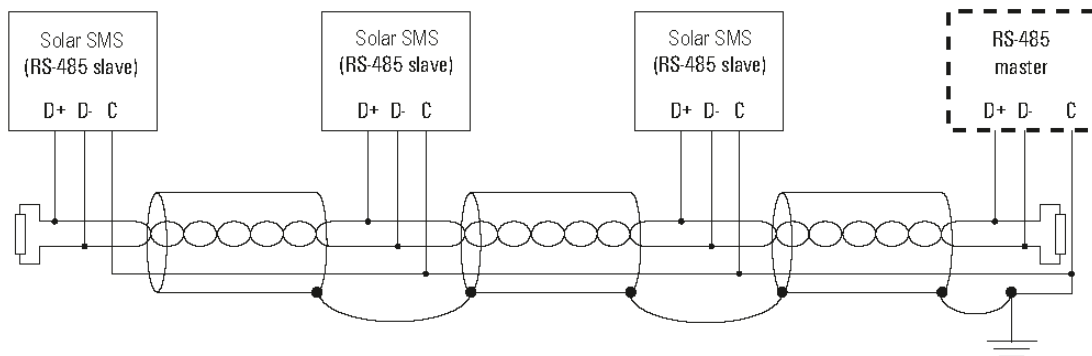

Figure 6
- **Each end of the bus requires a 120 Ω 10% ½ W termination resistor between D+ and D- (see the RS-485 wiring diagram from figure 6).** One end of the bus will be the RS-485 master (which may or may not include an internal termination option) and the other end will be inside the PV DC Combiner Box farthest away from the master (in terms of RS-485 cable distance).
- When daisy-chaining PV DC Combiner Boxes, the D+ and D- of each Solar SMS should use one twisted pair of the cable, leaving the remaining wire (in cables with 1.5 pairs) or the remaining twisted pair (in cables with 2 pairs) for the C connection. Always make sure that D+, D- and C use the right color-coded wire of the cable. It is a must to connect the C pin of all the Solar SMS and the RS-485 master together (see the RS-485 wiring diagram from figure 6).
<ul style="list-style-type: none"> • IMPORTANT: in each PV DC Combiner Box always wire the C pin first and afterwards the D+ and D- pins. • It is very important NOT to connect the shield to the C pin in any PV DC Combiner Box (see the RS-485 wiring diagram from figure 6). Daisy-chained shield running non-stop from end to end of the RS-485 bus. Leave the shield floating (i.e. unconnected) at the far end of the RS-485 bus (i.e. the PV DC Combiner Box farthest from the RS-485 master in terms of cable length). Tie the shield directly to protective earth at the RS-485 master end. • Tie the C pin to protective earth at the RS-485 master end (see RS-485 wiring diagram from figure 6). Before doing this, ensure that the C pin is not connected to protective earth anywhere else in the whole RS-485 bus (keep in mind that some RS-485 masters may already tie internally the C pin to protective earth or to their power supply ground!). This connection makes sure that the RS-485 common-mode voltage stays close to earth potential instead of rising to dangerous voltages due to stray capacitances and conductance in the network. • Check communication schema on next page.
<p>Damages to the RS-485 transceiver IC of this equipment due to the following wiring errors will not be covered under warranty:</p> <ul style="list-style-type: none"> • Connecting the C pin of this equipment to protective earth anywhere except in one point (at the master end). This connection may already be done internally inside the RS-485 master. • Connecting the C pin of this equipment to the cable shield inside a PV DC Combiner Box. • Using non-twisted pair or non-shielded cables. • Not connecting RS-485 cables as it appears on the figure 6.